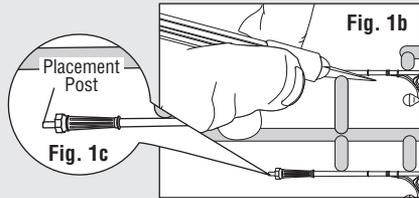

Fig. 1b
- Details can be left on sprues or removed for priming and painting. If removing Details, use a hobby knife (or flush cutting shears) and sand off parting lines (**Fig. 1b**). Smaller Details are easier to paint on sprue.